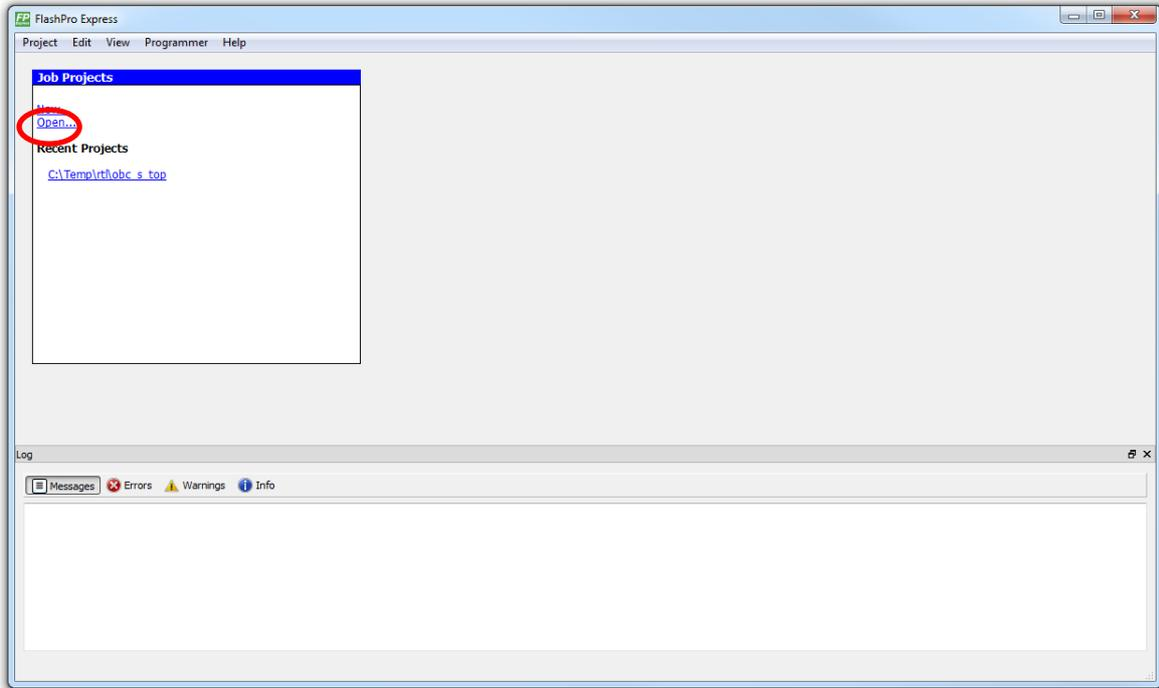

Figure 10-1 - Startup view of FlashPro Express
4. Start the FlashPro Express application, click “Open...” in the “Job Projects” box (see Figure 10-1) and select the supplied .pro file.